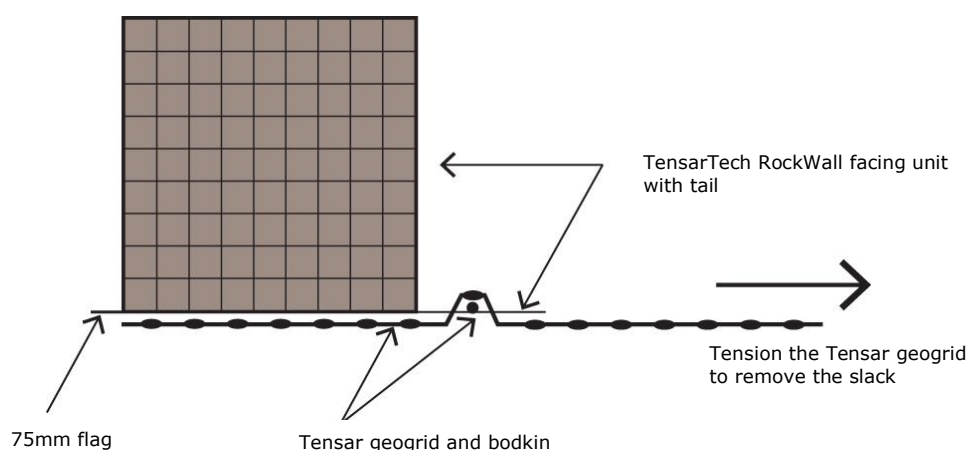

Figure 2 – Positive connection between Tensar geogrid and facing unit using bodkin joint
13. Connect the tail at the base of the facing units to the Tensar geogrid using the polymer bodkins provided. The Tensar geogrid should run all the way through to the front of the unit with the bodkin joint formed at midpoint of the tail (refer to Figure 2).